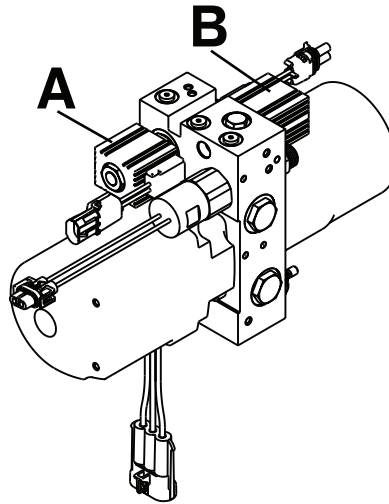

Figure 15 – Hydraulic A valve or B valve replacement
5. Using a 3/4" combination wrench, remove the nut that secures the solenoid to the A valve (A) or B valve (B) (Figure 15). Save the nut.
7. Using a 7/8" combination wrench, remove the A valve or B valve from the hydraulic subassembly (Figure 15).